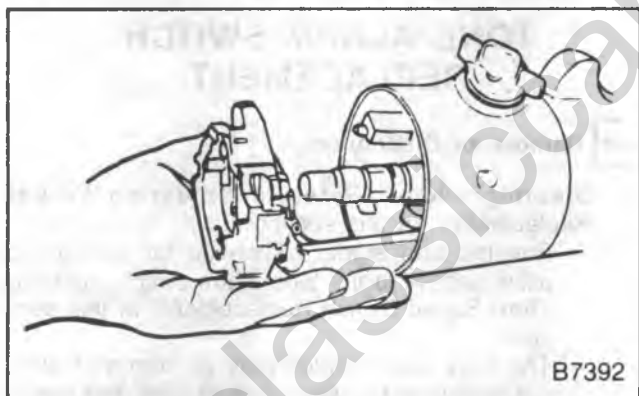

Figure 13—Removing Turn Signal Switch Assembly
8. Turn signal switch. Pull the switch straight up, guiding the wiring harness and cover through the column housing (figure 13).